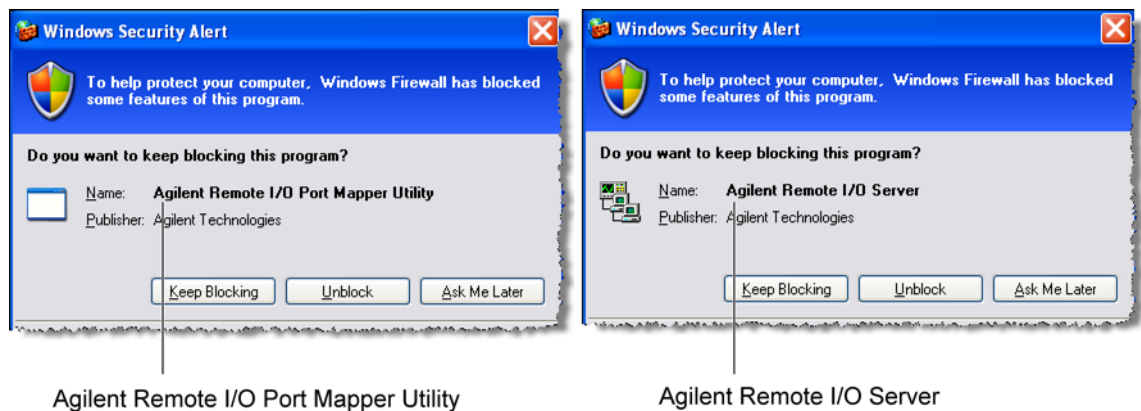

Figure 2-1. Example Windows Firewall Security Alerts
- 8 If you are prompted by a firewall application to block the Agilent Remote I/O Port Mapper Utility and the Agilent Remote I/O Server, select Unblock as shown in Figure 2-1 on page 2-3. See the introduction to this section for more information.